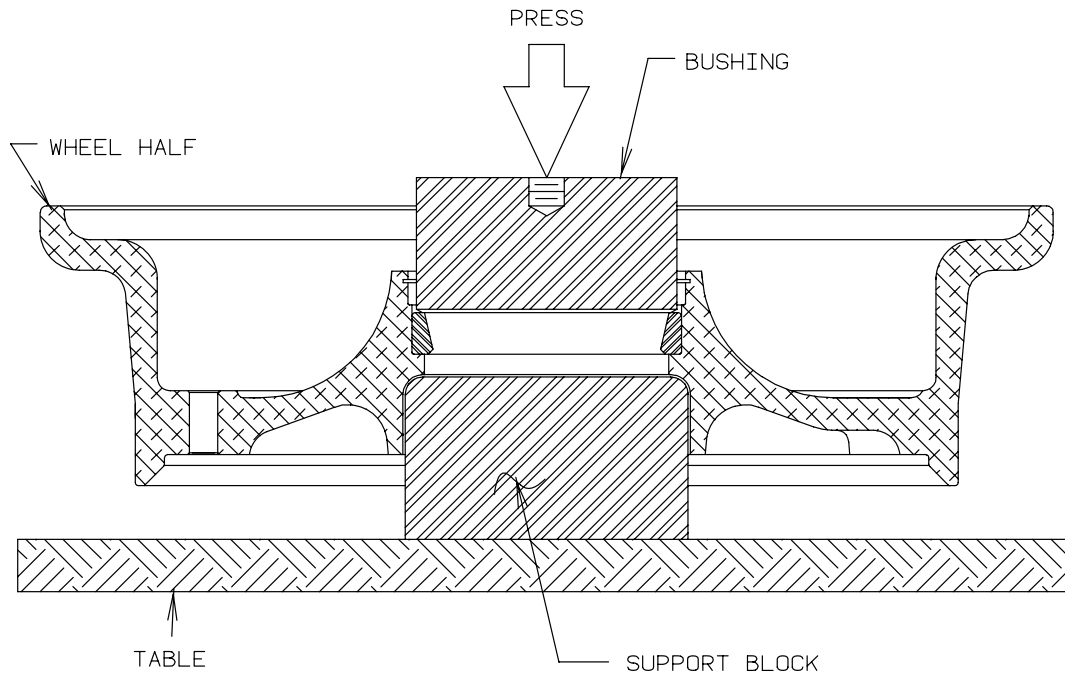

Figure 311 - Bearing Cup Installation
- (d) Install the chilled bearing cup into bearing bore of heated wheel half. Tap gently into place with a fiber drift making sure cup is evenly seated against shoulder of wheel half. Ref. Figure 311. Avoid cocking bearing cup during installation. If bearing cup will not seat properly in wheel half, repeat above procedure or replace wheel half assembly.